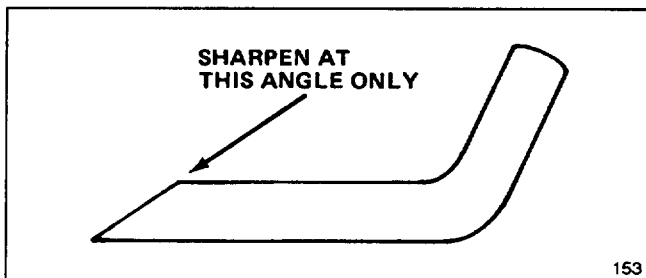

Figure 25
6. SHARPENING BLADE—Using a file, sharpen top side of blade and maintain original cutting angle (Fig. 25). The blade will remain balanced if same amount of material is removed from both cutting edges.